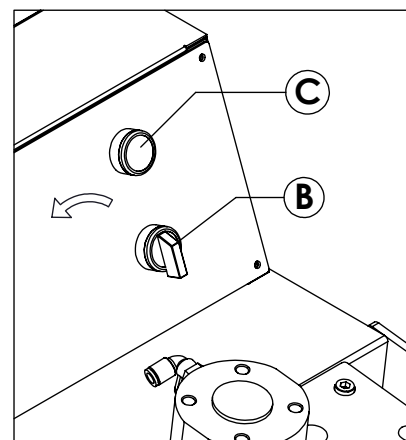

Figure 2
- Turn the 1. and 2. on/off buttons to the left. (Figure.2-B)
- On each pressing of time entering button, 1. pressing time increases 1 second. (Figure.2-C)
- Turn 1th and 2nd on/off buttons to the left. (Figure.2-B)
- Push Time Entering Button (Figure.2-C) during 3 seconds. At the end of the time button's light to be on and off.
- If 1th pressing time is zero your machine does not run. For running of the machine you have to set 1th pressing time. (Figure.2)
- On each pressing of time entering button (Figure.2-C) 1th pressing time increases 1 second.